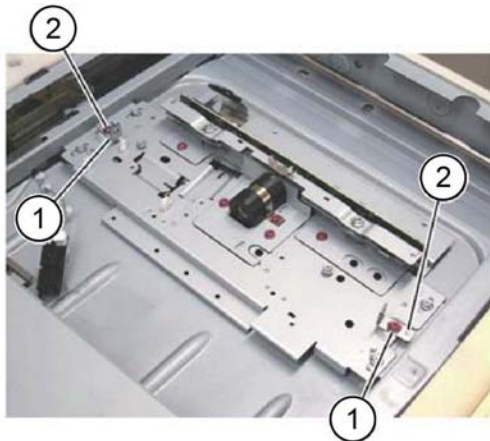

Figure 1 Alignment pins
3. Remove the alignment pins from the lens assembly, Figure 1:
- a. Remove two screws (1).
- b. Remove the alignment pins (2).